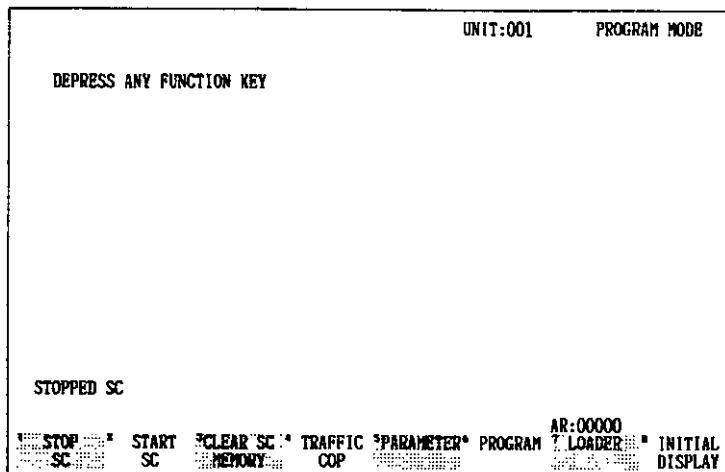

Fig. 3.7
Depressing **SUPER VISRY** key after ATTACH activation produces the display shown in Fig. 3.7, enabling the SUPERVISORY operations indicated in the label area.
3. Depressing **PREVIOUS MENU** key calls Fig. 3.7.
3. Depressing the key after completion of parameter setting returns the display to the supervisory display (See Fig. 3.7)
- When depressing CANCEL key instead of CONFIRM key, the display shown in Fig. 3.7 appears with GL60S running.